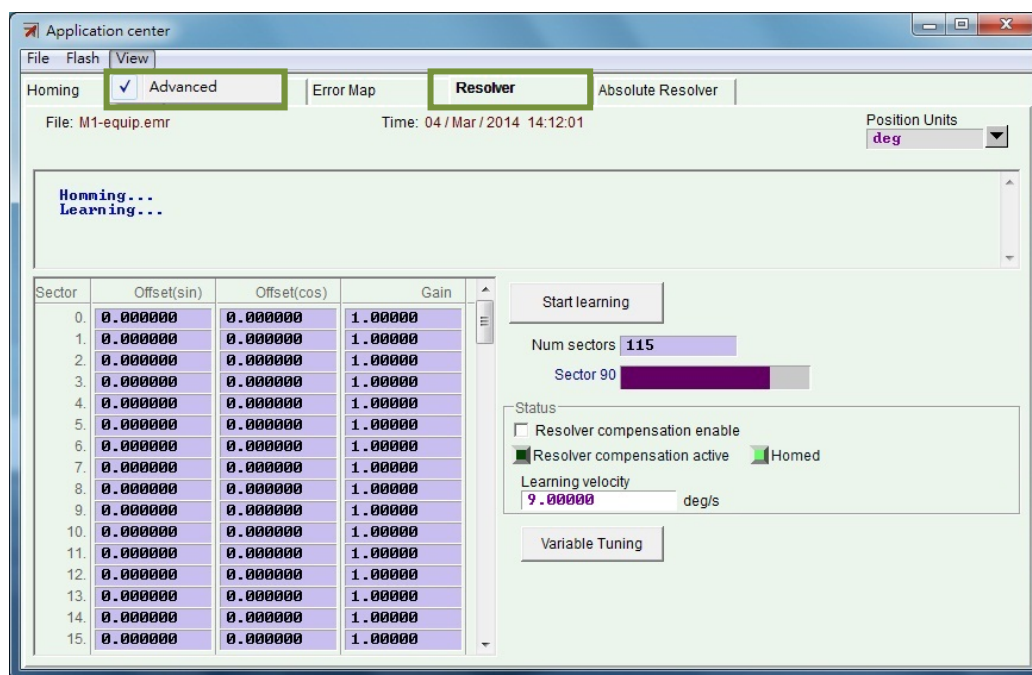

Figure6.10.1.1
Step 1: Open Application center. Select **Advanced** from the submenu of **View** on the menu bar. **Resolver** tab appears as figure 6.10.1.1.